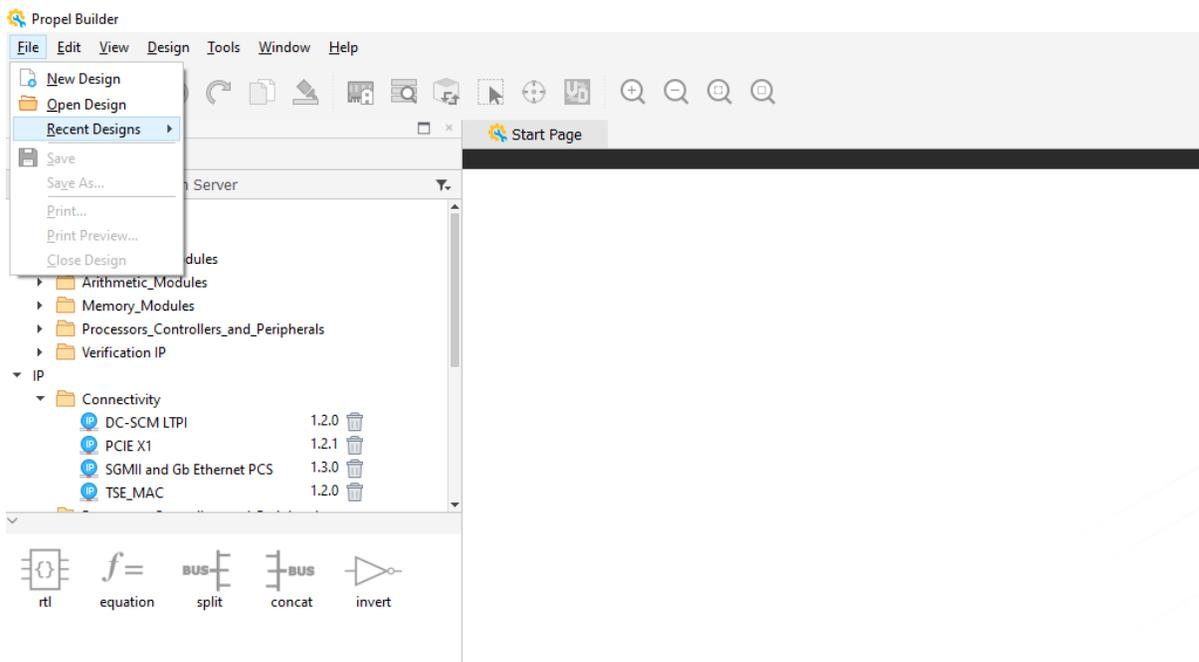

Figure 2.11. Open Recent Project
- You can also use **File > Recent Designs** from Propel Builder Menu (Figure 2.11) to quickly open a recently-closed project.